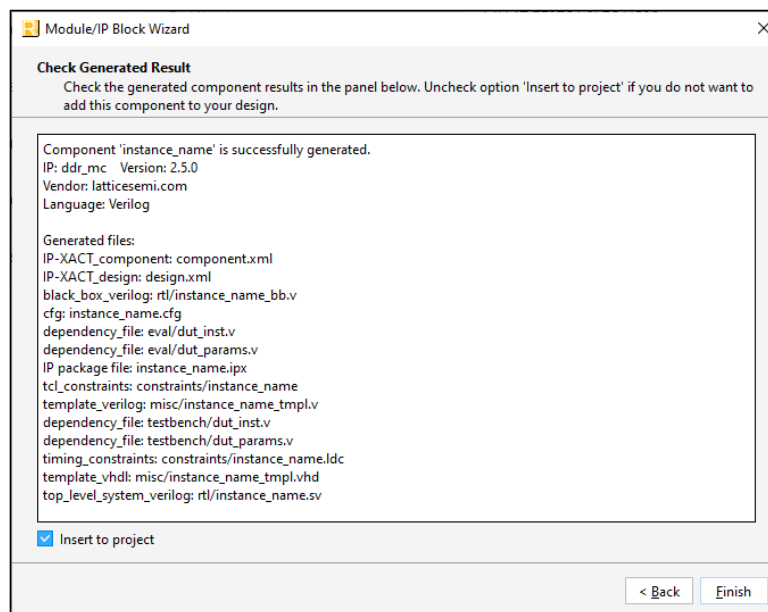

Figure 7.6. IP Generation Result
- Click **Generate**. The Check Generating Result dialog box opens, showing design block messages and results as shown in Figure 7.6. Click **Finish**.